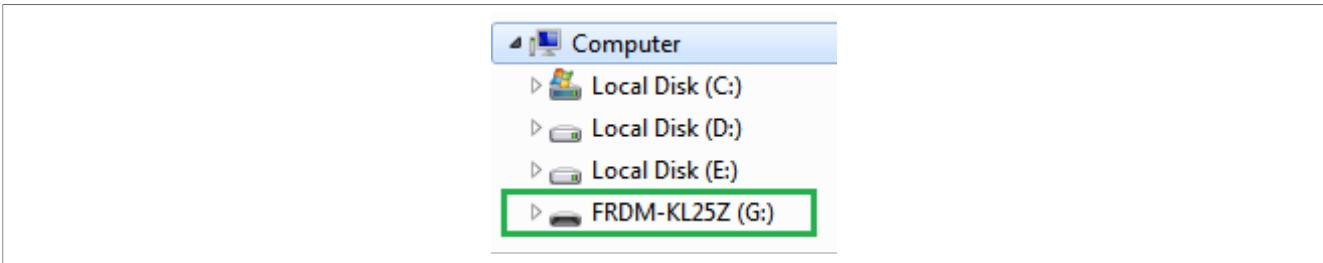

Figure 3. Left pane of Windows File Explorer
- This time without pressing the **RST** button, the FRDM_KL25Z device should appear on the left pane of the Windows File Explorer as pictured in Figure 3.